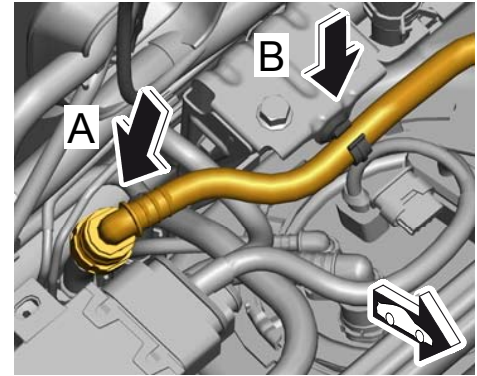

Figure 51
- 8.5.1 Plug in vacuum line ⇒ *Figure 51* -**arrow A**- until it engages securely.
- 8.5.2 Clip in vacuum line at the battery console holder ⇒ *Figure 51* -**arrow B**-.